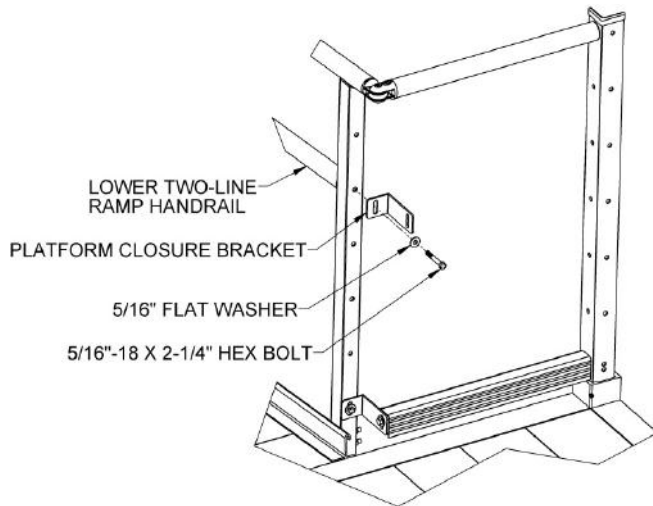

FIG. 5.10
- 5.5.1. Locate a platform closure bracket. Remove the 5/16"-18 x 2-1/4" hex bolt and 5/16" flat washer attaching the lower Two-Line ramp handrail then reinstall bolt and washer through the slot in the short leg of the bracket, the ramp handrail post and into the threaded insert in the lower rail. Orient the bracket so the long leg is on the same side as and parallel to the platform post then tighten lightly (enough to hold the bracket against the post but still allow it to rotate) (FIG. 5.10).